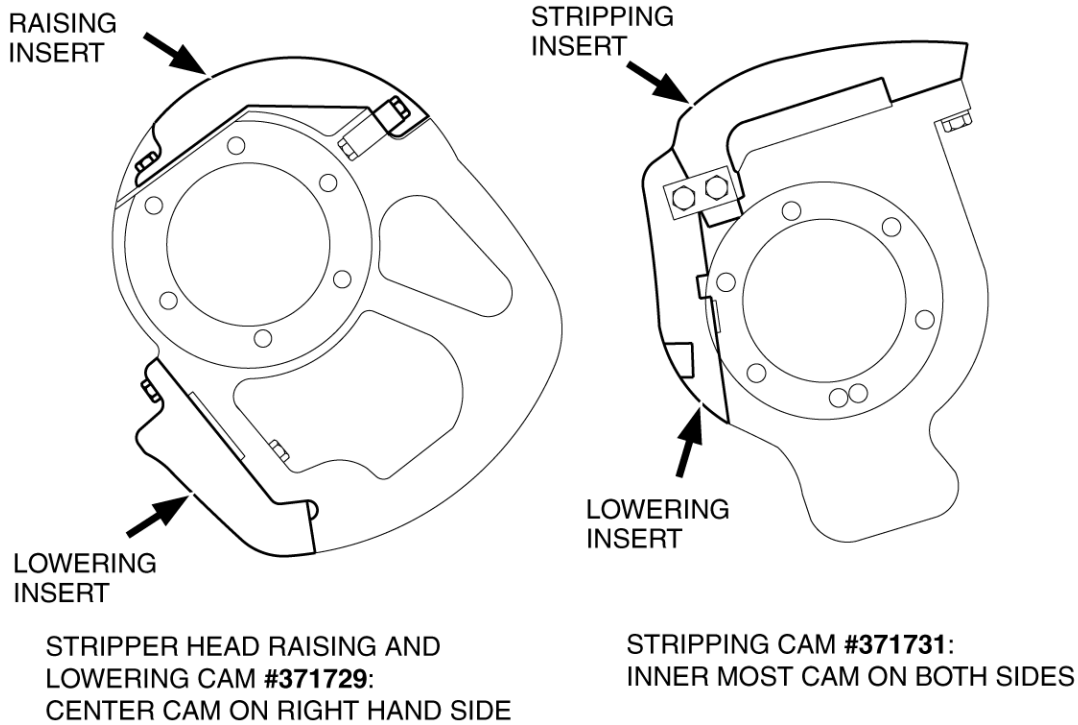

Figure 4.26 CAM INSERTS
- 4.2.4 Install stripping cam insert **# 371731** on each side of the machine and one stripper head raising cam insert **# 371729** on the right side of the machine (see figure 4.26).